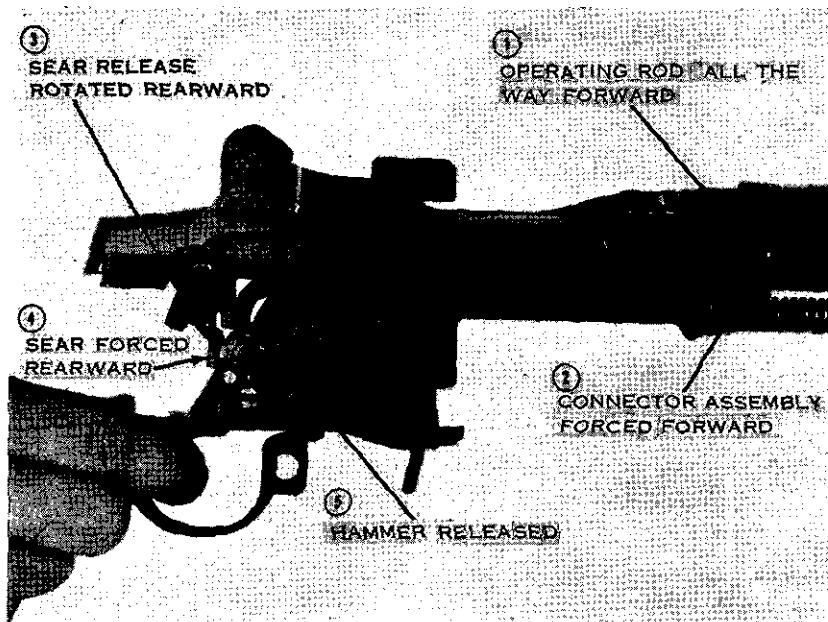

Figure 46. Effects of forward movement of connector assembly.
c. After the bolt moves forward and locks, the shoulder on the operating rod engages the hook of the connector assembly and forces it forward one-eighth of an inch. This rotates the sear release on the selector shaft, causing the flange on the sear release to push the sear to the rear, disengaging it from the rear hammer hooks (fig. 46). The hammer will then go forward if the trigger